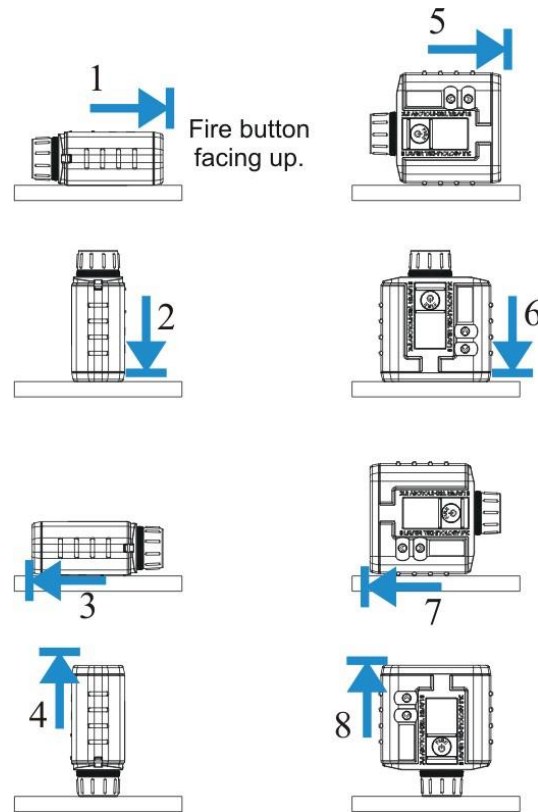

Figure 6. The TruPulse tilt-sensor calibration routine.
6. Place the TruPulse on a relatively flat surface (within 15deg of level), and follow the sequence outlined in **Figure 6** below.